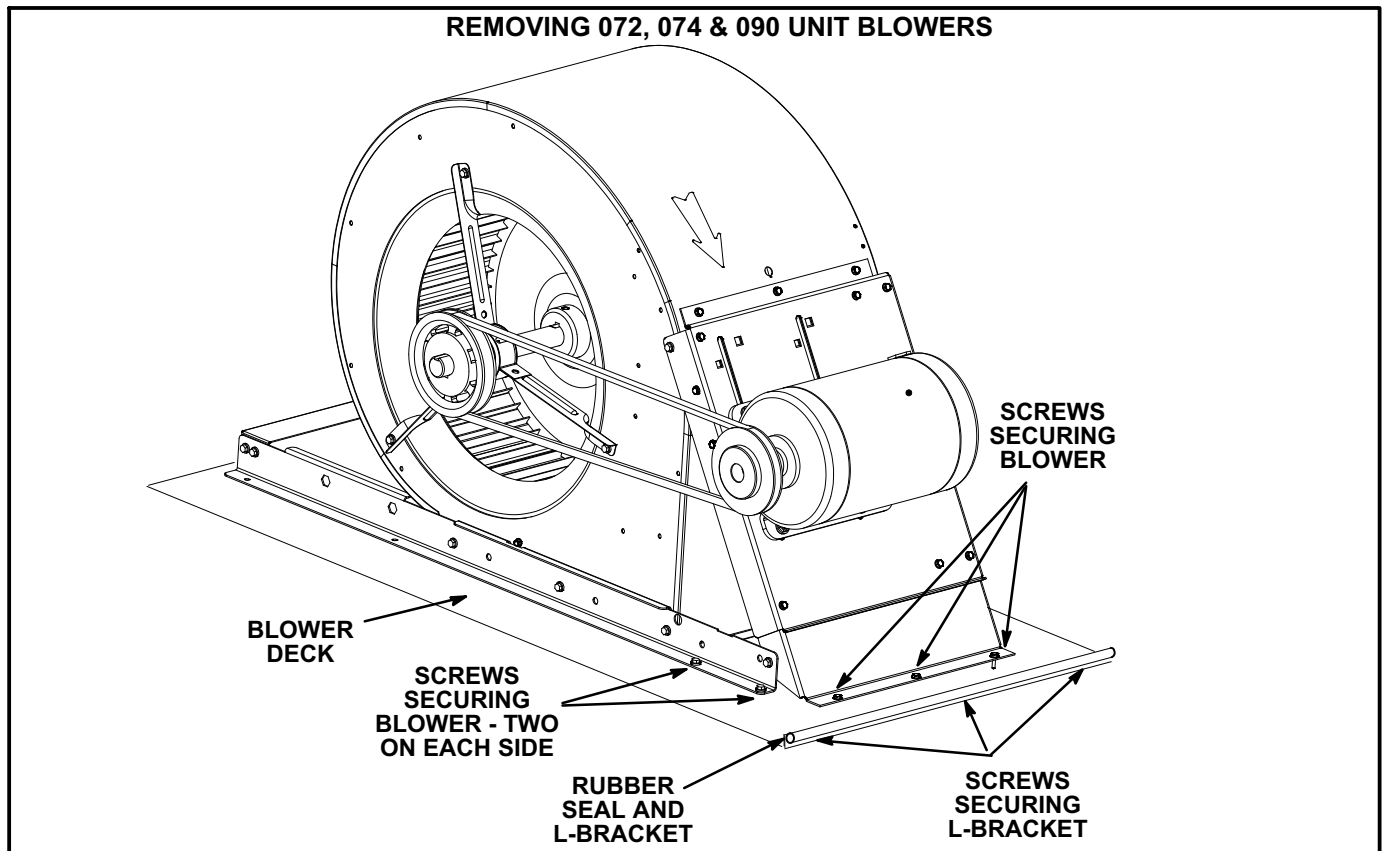

FIGURE 32
- 1- Peel the rubber seal off of the L-bracket on the blower deck. See figure 32.